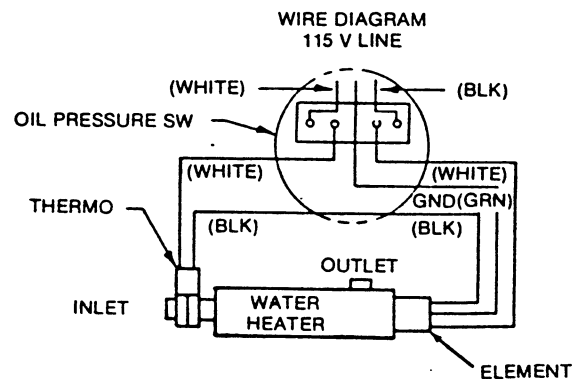

FIGURE 17. ENGINE HEATER
**Water Jacket Heater:** The function of this optional heater is to keep the engine warm enough to assure starting under adverse weather conditions. Connect the heater to a source of power that will be on during the time the engine is not running. Be sure the voltage rating is correct for the heater element rating (Figure 17).